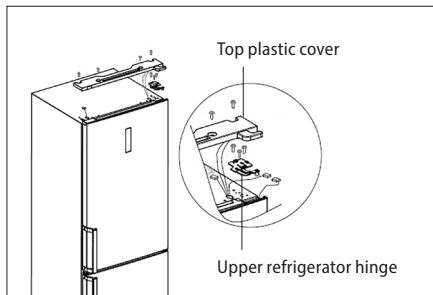

Fig. 1
3. Remove the top plastic cover and the upper hinge of the refrigerator (Fig. 1) and disconnect the connector located at the upper hinge of the refrigerator (Fig. 1). Remove the refrigerator door and place it in a safe place.